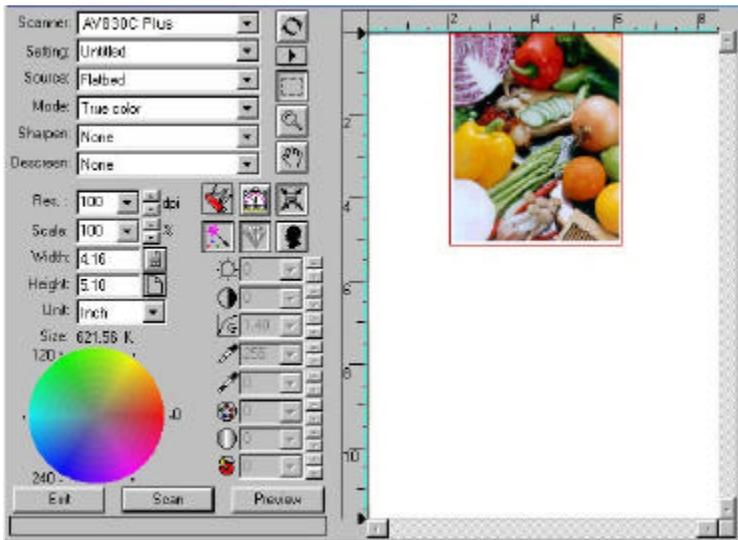

Figure 4-2 PC TWAIN user interface
6. Avison TWAIN user interface as Figure 4-2 will pop up on the screen. Click **Preview** or **Scan** button to scan the document.